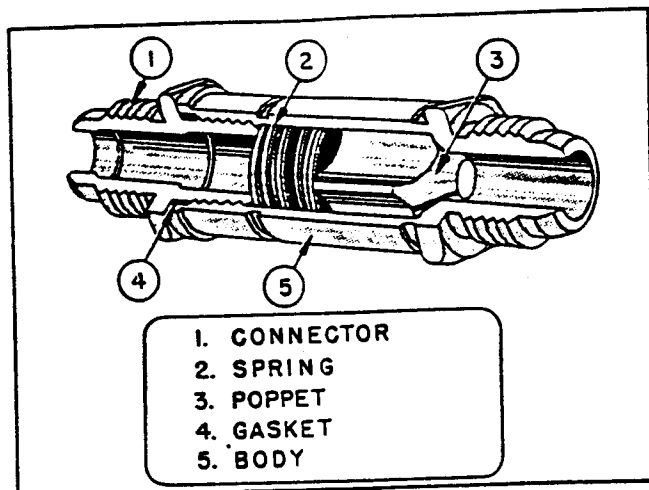

Figure 32. Pump Check Valve
(14) CHECK VALVES. (See figures 32, 33, and 34.)